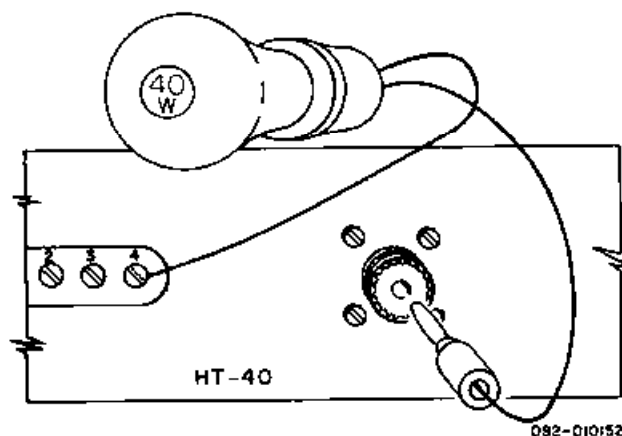

Figure 6. Light Bulb Used as Dummy Load
1. 50 ohm non-inductive dummy load or a 40 watt light bulb (see fig. 6).